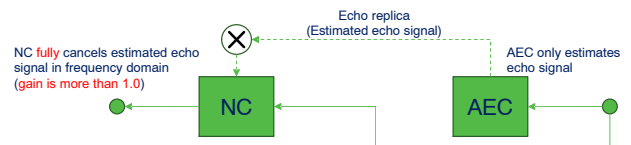

Figure 3. Frequency Domain Mode
b) Frequency domain mode (Figure 3)